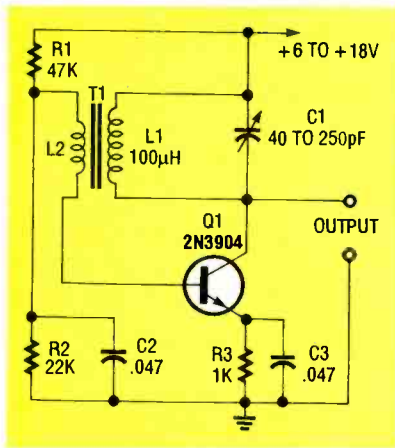
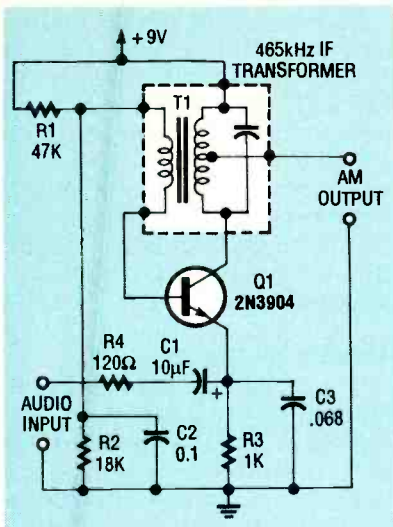
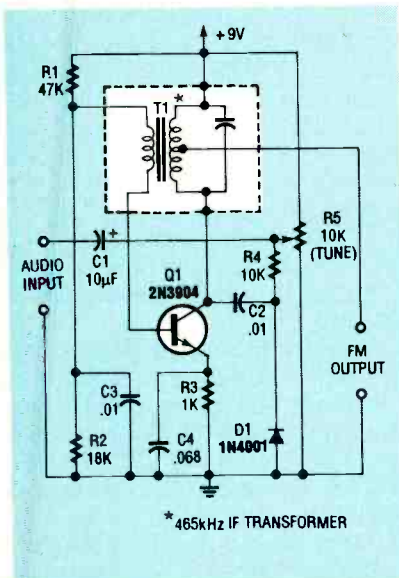

FIG. 5—TUNED-COLLECTOR oscillator has a tuned-transformer resonant tank.
FIG. 10—BEAT-FREQUENCY oscillator that can amplitude modulate audio signals.
FIG. 11—BEAT-FREQUENCY oscillator with varactor tuning frequency modulates input signals.
The tuned-collector oscillator shown in Fig. 5 is the simplest of many different LC oscillators. Transistor Q1 is configured as a common-emitter amplifier, with its base bias provided by the junction of series resistors R1 and R2. Emitter resistor R3 is decoupled from high-frequency signals by capacitor C3.
Because the circuit in Fig. 5
variation of the tuned-collector oscillator that was shown in Fig. 5. This oscillator is recognizable by the tapped coil in its tuned resonant circuit. Oscillation of the Hartley oscillator circuit depends on phase-splitting autotransformer action of the tapped coil in the tuned resonant circuit.
The LC oscillator circuits shown in Figs. 5 to 9 can be modified to produce amplitude- or frequency-modulated (AM or FM) rather than continuous-wave (CW) output signals. Figure 10 is the schematic for a beat-frequency oscillator (BFO). It is based on the tuned-collector circuit of Fig. 5, but modified to become a 465-kHz amplitude-modulated (AM) BFO.
Figure 11 shows how the BFO circuit in Fig. 10 can be modified to become a frequency modulator. Tuning is adjusted by trimmer potentiometer R5. Silicon diode D1 functions as an inexpensive varactor diode. A 1N4001 diode frequency modulates the 465-kHz BFO circuit. Here, C2 and diode "capacitor" D1 are in series.